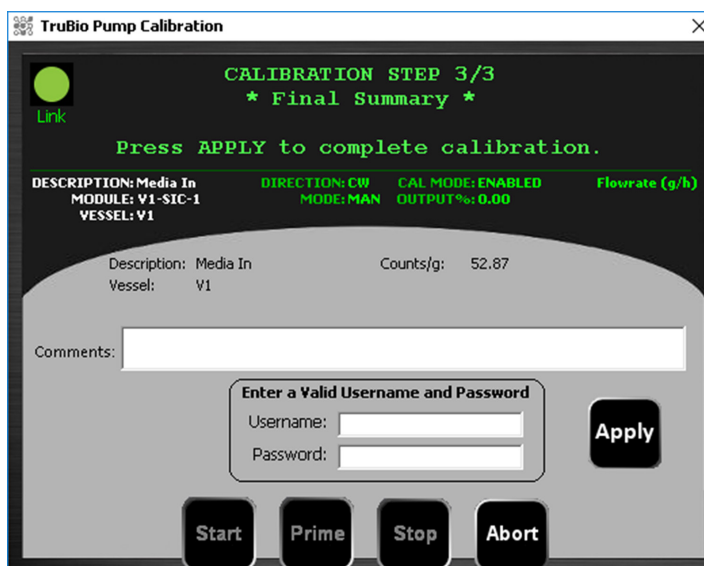

Figure 3.36. Prompt for username and password.
- At the end of the three runs, a prompt appears for a username and password (Figure 3.36). You can also add comments. To write the calibration to the record, click **Apply**.
- In the Limits fields, set the **Hi Alarm** to 60°C and the **Hi Hi Alarm** to 65°C. Then click the **Enab** (enable) checkbox to enable both the **Hi** and **Hi Hi** alarms (Figure 3.36).